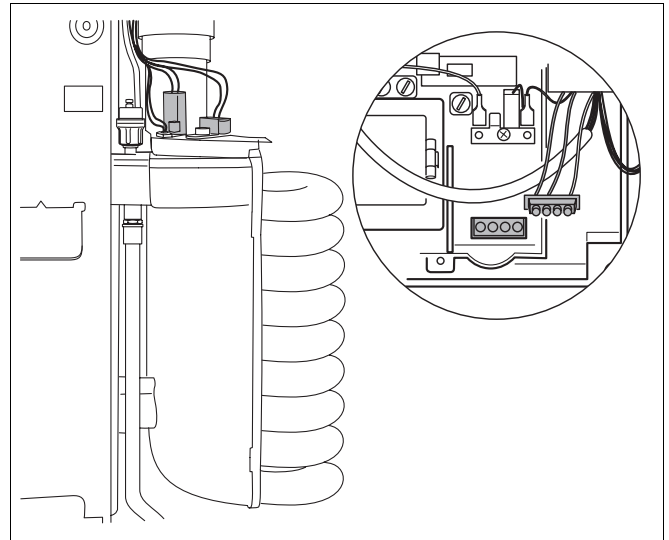

Fig. 73 Checking the incandescent firing electrode
- Unplug and remove incandescent firing electrode from UBA housing (fig. 73).